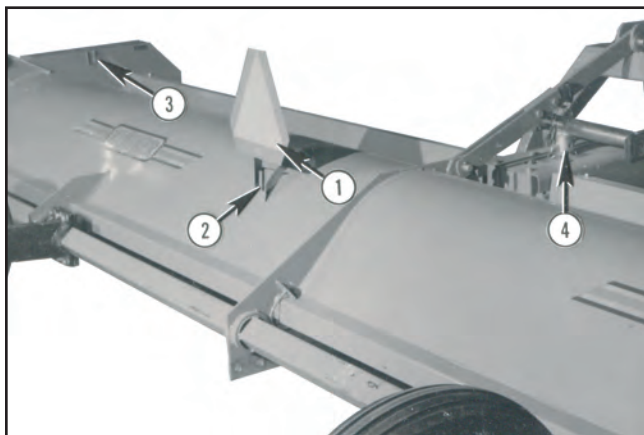

FIGURE 114
IMPORTANT: AFTER TRACTOR HOOKUP, ALWAYS STORE HITCH JACK ON PEDESTAL AT TOP OF GEARCASE. (REF. (4), FIGURE 114, PAGE 48.)
The SMV (slow moving vehicle) emblem and spade bracket (1) are shipped inside an end enclosure. This emblem is provided with 2 female sockets. Location (2) is for towing in normal field mode and location (3) is for the end transport kit. See Figure 114.